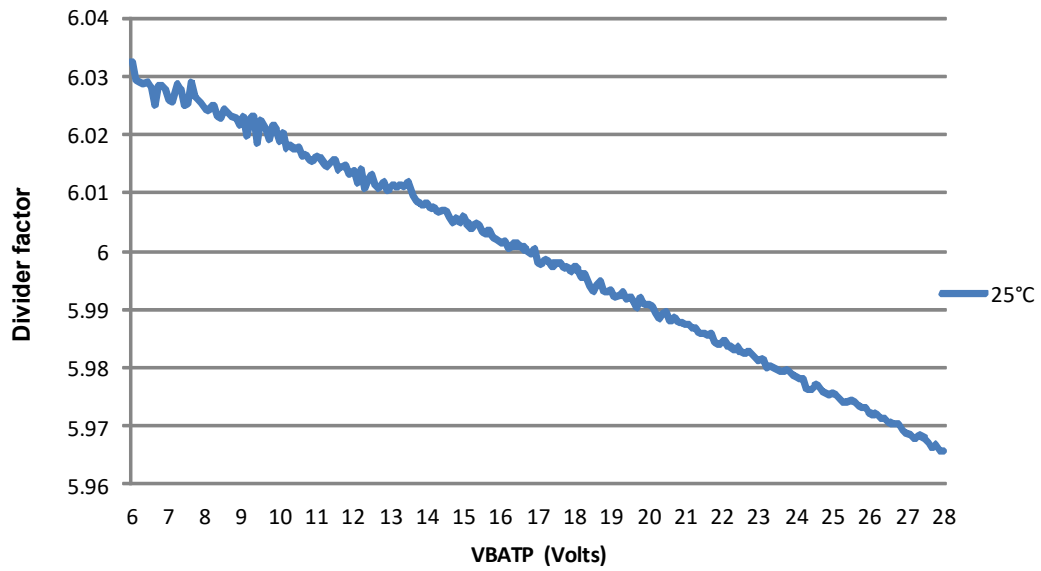

Figure 4. Divide by 6 coefficient accuracy
23. Calibration of divider ratio can be done at $V_{BAT} = 12\text{ V}$, $25\text{ }^\circ\text{C}$ to achieve a higher accuracy. See Figure 4 for AMUX offset linearity waveform through the operating voltage range.